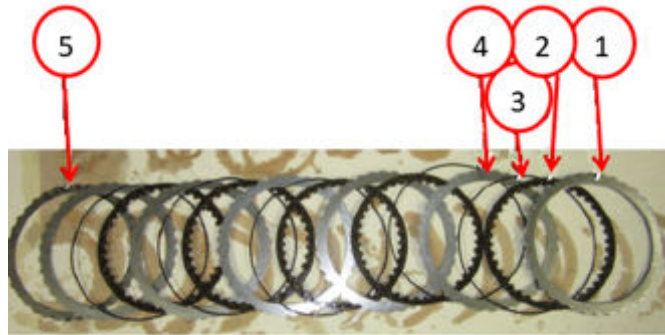

Fig. 33
51. The clutch D, dependent on transmission Julian Date, may contain wave springs that sit around each fiber. There will be five friction plates (discs), five wave springs, five steel plates, one cover plate, one snap ring, and one wave plate (last plate far left in figure) Fig. 33.